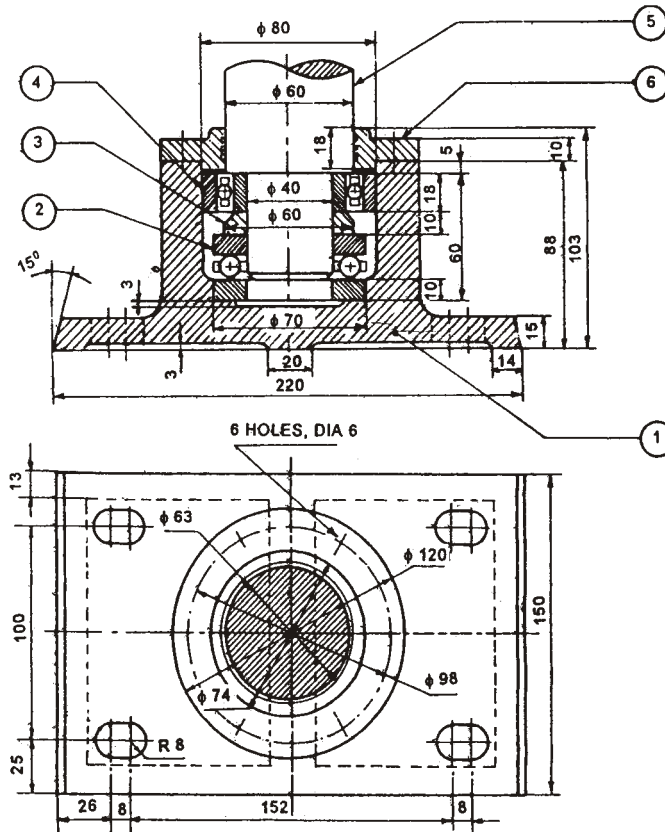

Fig. 2
6. Study the given assembly drawing of the foot-step bearing shown in Fig. 2 :